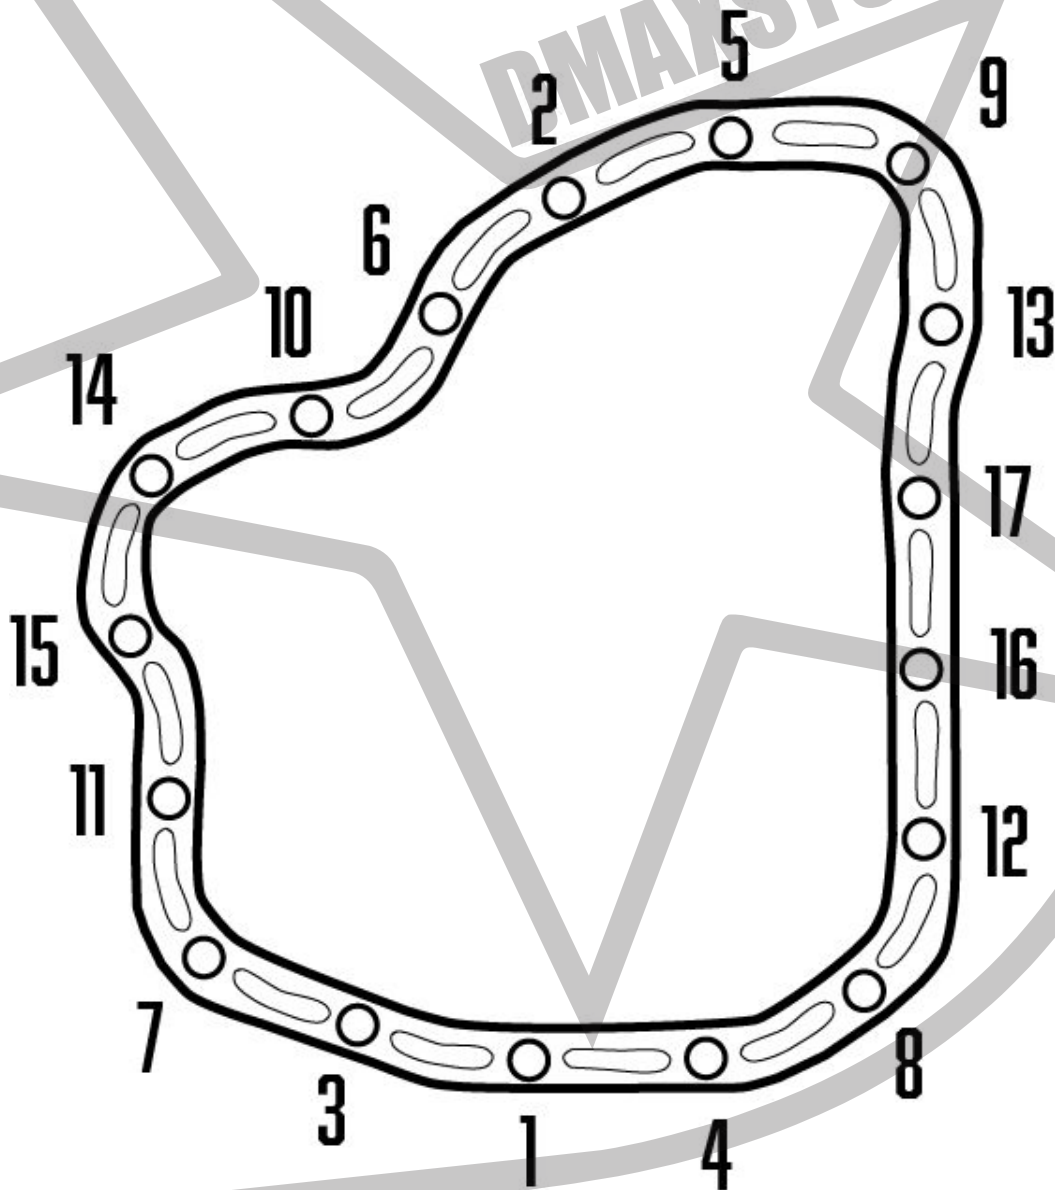

Figure 1
5. Torque the lower oil pan bolts to 89 in lbs in the tightening sequence in *Figure 1*.